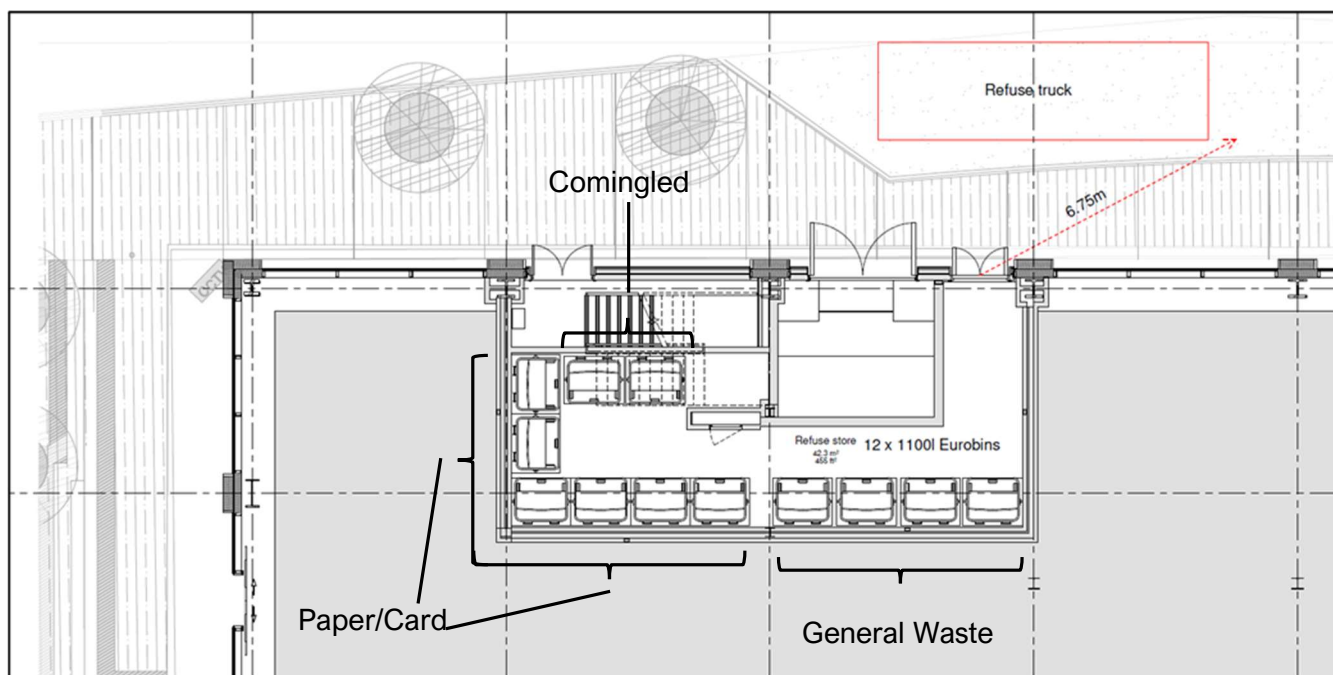

Figure 4.1 Bin Store Layout
- 4.5 This robust forecast based on high historic office waste generation rates and high occupancy levels shows a requirement for 11 Eurobins. The bin store layout is shown in **Dwg SJQ-102 AXS XX L00 DR A 20200** and in **Figure 4.1** overleaf. It can be seen that the bin store has space for a minimum of 12 x 1100litre Eurobins.